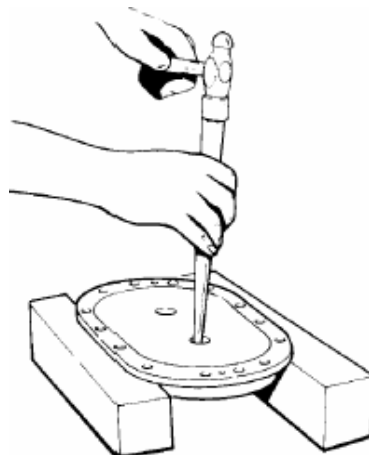

FIGURE 6-5
12. Remove the two drive end bearings (15) from the drive headplate (24) using a ball peen hammer and punch (see Figure 6-5, page 26).
13. The grease seals can now be driven out of the drive headplate with hammer and punch (see Figure 6-5, page 26). Discard the seals as they will not be reused. Replace grease seals each time the headplate is removed.